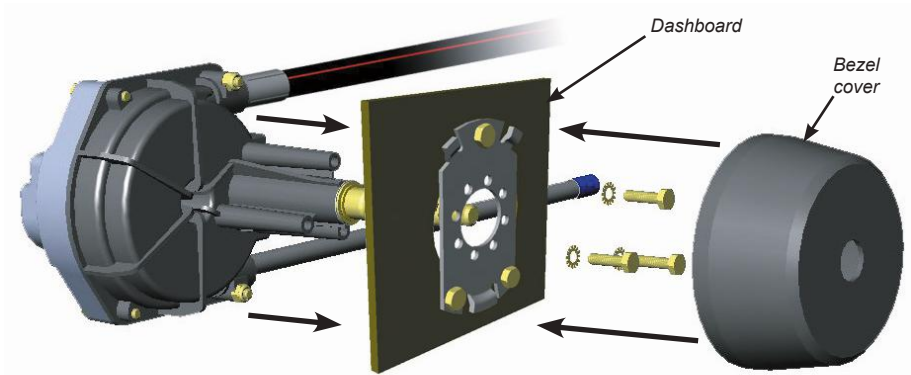

Fig B12 - Mounting drive unit to dashboard bezel plate
- i) Position the drive unit behind the dashboard and bolt it to the bezel plate using the 3 x 1/4" bolts supplied (Fig B12). Tighten and torque to 3-35in-lbs.